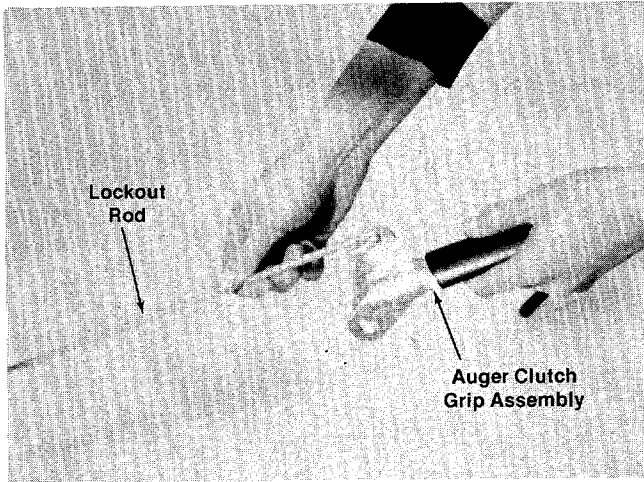

FIGURE 15.
20. Hook lockout rod into auger clutch grip assembly (E) as shown in figure 15.